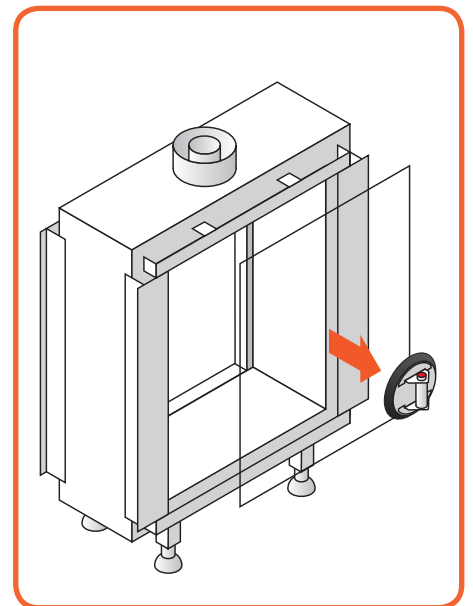

Figure 10.9 - Remove glass
- Lift the glass out of the lower glass rail and tilt it out through the opening, as seen in *Figure 10.9*.